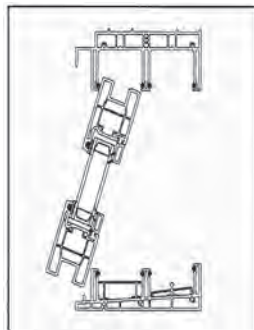

Fig. 7
- 3) From the exterior side, insert the fixed panel top into the exterior pocket in the frame head. The interlock must be toward the center of the frame facing the inside of the house. (Fig. 7)